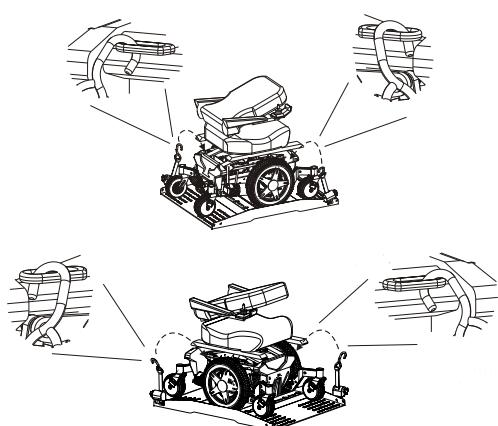

Figure 3-8
- Either two or four retractor configurations can be used. For two retractor systems, one Q'Straint should be located on each corner opposite each other on the platform. *See Figure 3-8.*